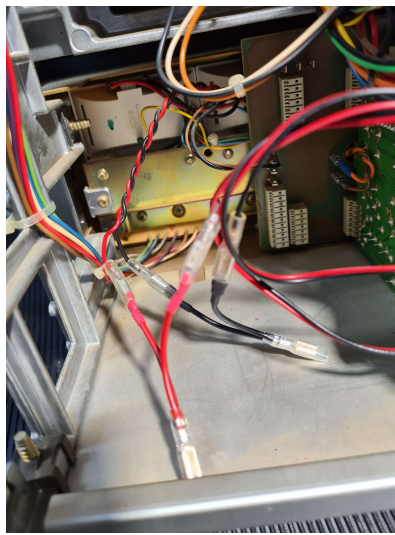

Figure 9
- Connect the speedometer cable to the corresponding colors of the adapter. (Figure 9)